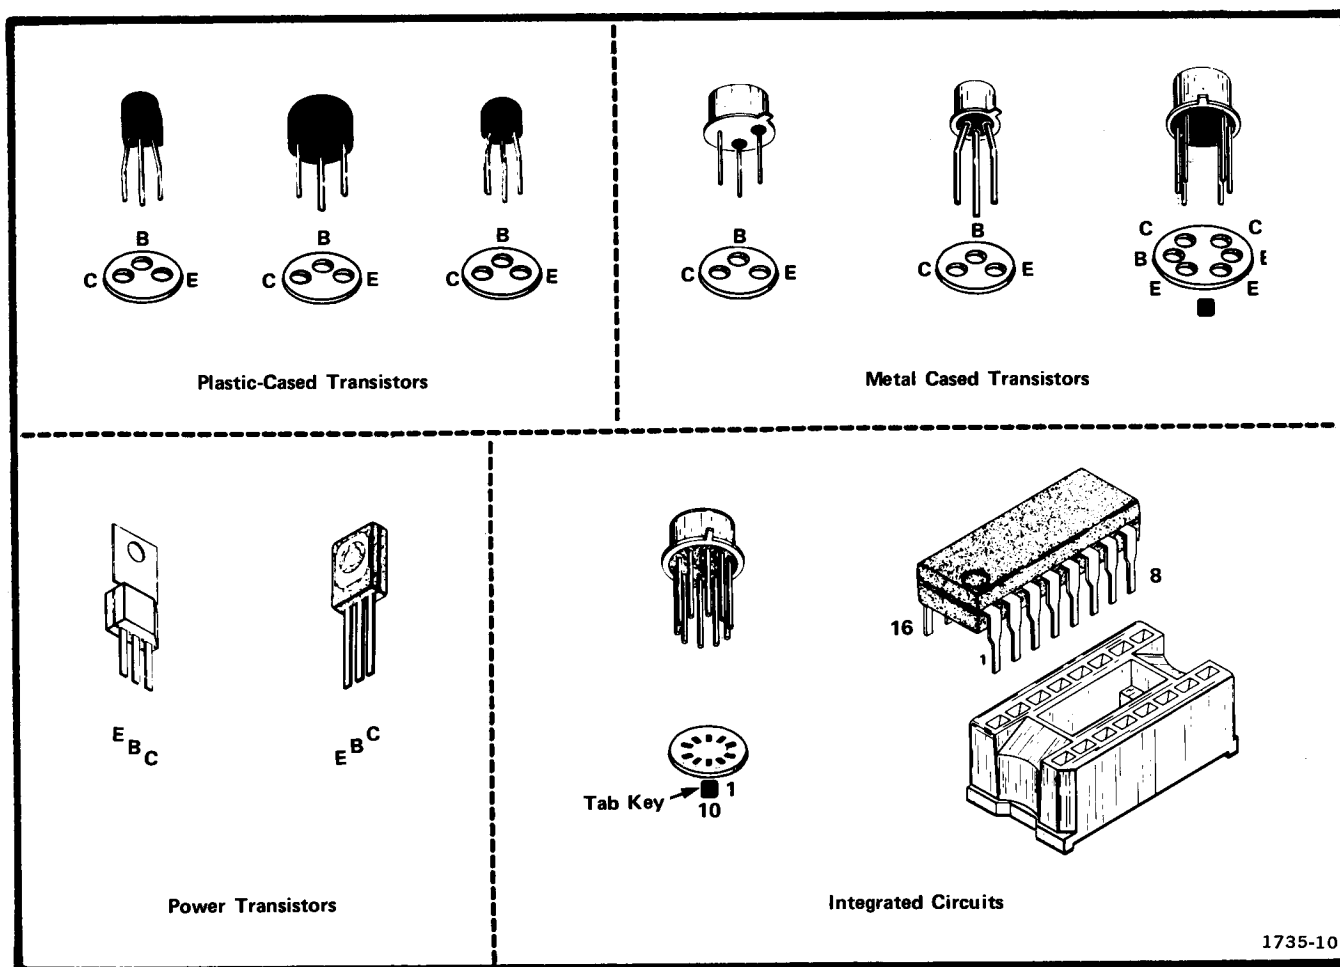

Fig. 6-4. Electrode configuration for semiconductor components.
Transistor and Integrated Circuit Electrode Configuration. Lead identification for the transistors is shown in Fig. 6-4. IC pin-out diagrams are shown, when necessary, on the back of the adjoining pullout schematic diagram.
4. Be sure the component (transistor or IC) is inserted properly in the socket (see Fig. 6-4 or the manufacturers data sheet).
Replacement semiconductors should be of the original type or a direct replacement. Fig. 6-4 shows the lead configuration of the semiconductors used in this instrument.